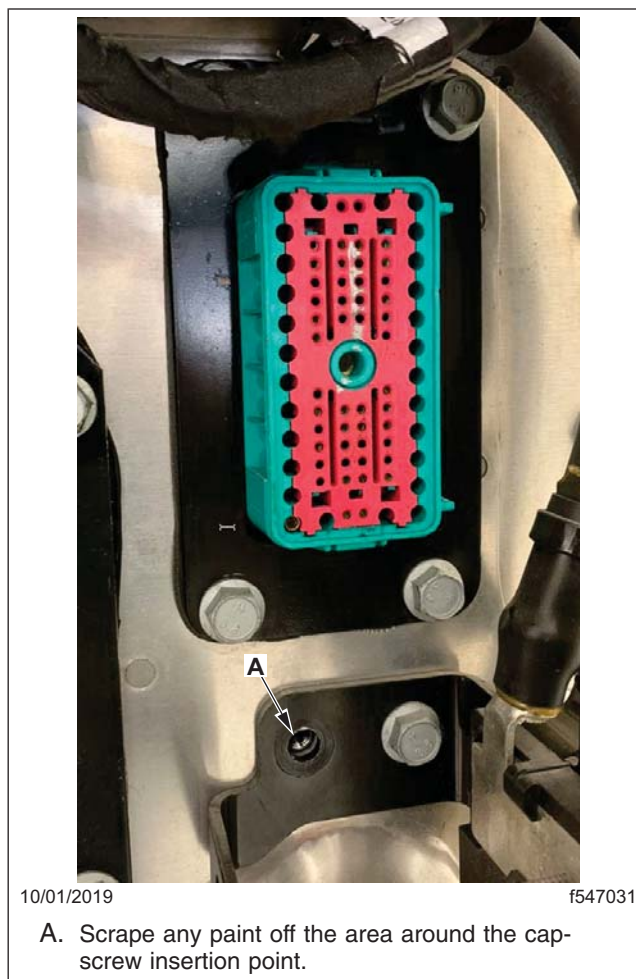

Fig. 2, Cleaning the Area Around the Bracket
4. Scrape a small amount of paint off of the bracket so that the face of the capscrew will have metal-to-metal contact. See Fig. 2. This ensures that the ground strap and the MGJB have continuity with the frontwall when the nut is installed.